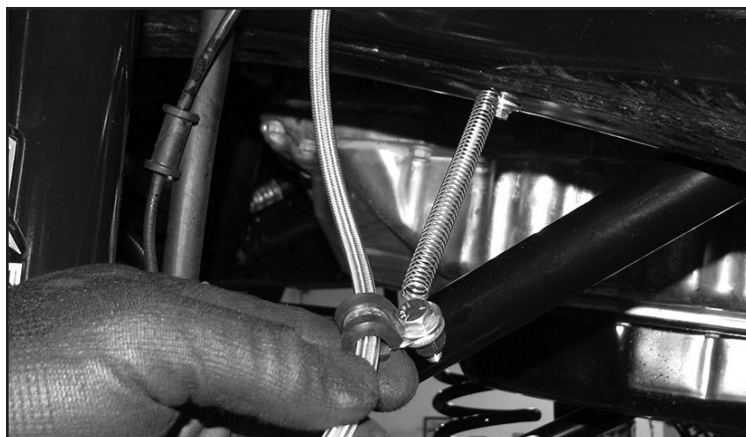

FIGURE 8 - STEP 6
6. Mount the opposite end of the spring to the frame using the supplied TEK screw and washer. **SEE FIGURE 8**